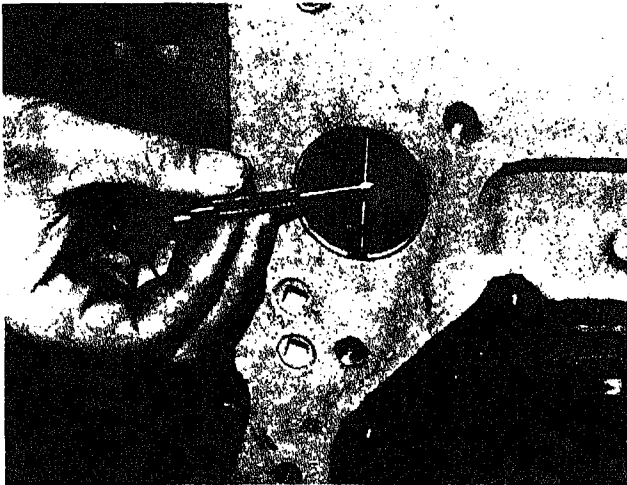

Fig. 1-1-4. Checking camshaft bushing inside diameter
1. Use inside micrometers or dial bore gauge to gauge camshaft bushing inside diameter, Fig. 1-1-4. Mark bushings for replacement if worn larger than "Worn Limit" shown in Table 1-1-2.